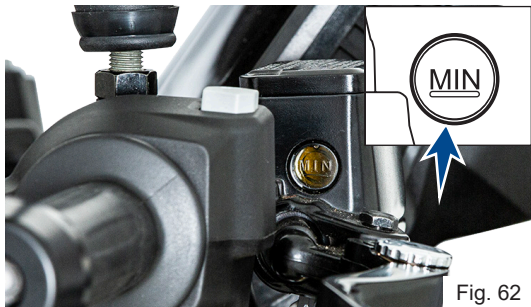
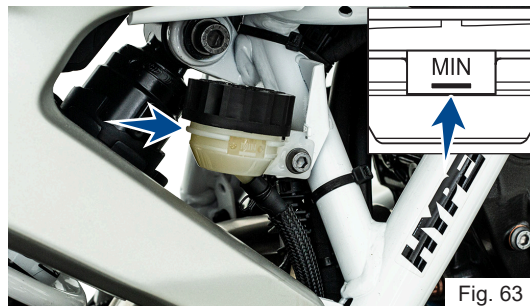

Fig. 62
Fig. 63
- Inspect the oil level of both front and rear brake fluid reservoirs (**ref. Fig. 62 & Fig. 63**).